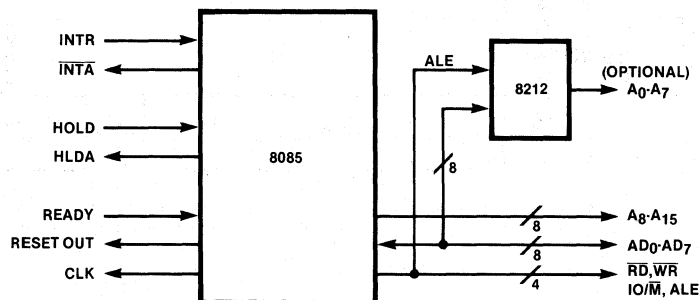

Figure 1-6. MCS®-85 System Bus
- Hardware prototyping can begin with just a microprocessor socket and a system bus (Figure 1-6). You can use I/O ports in the Intellec system to simulate inputs and outputs that later will come from and go to the 'real world', the environment in which your system is to 'live'. The Intellec system ports can also give your system access to external diagnostic routines.